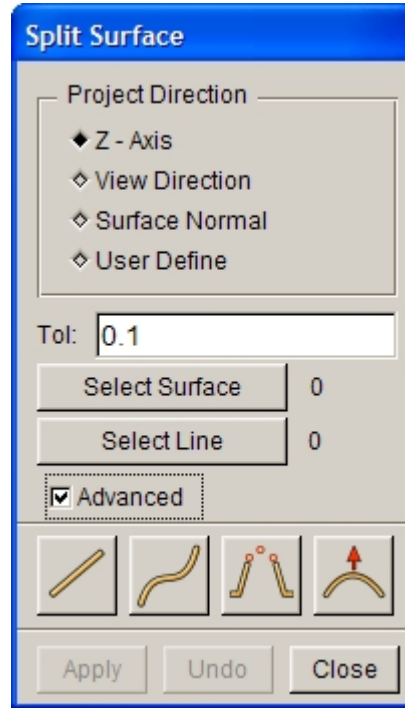

Figure 5.2.20 Create Split Line
4. Click SELECT LINE button to select the split line. If there is no split line, the user can select ADVANCED option to create a desired split line. Once the ADVANCED option is selected, the program will pop up a row of buttons to create line, as shown in Figure 5.2.20.